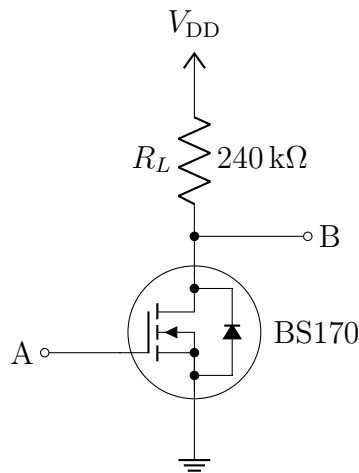

Figure 6: Discrete Diode Implementation Of Inverter Circuit
1. Build the inverter circuit shown in Fig. 6 from the Discrete Digital Circuits laboratory.